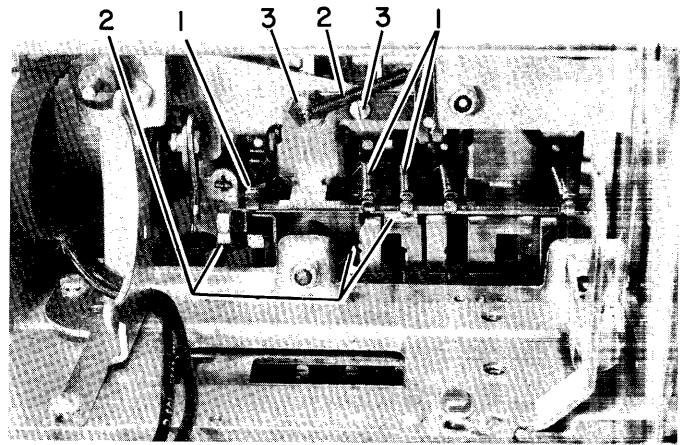

Figure 23. Rotate Selection Differential Removal
9. Remove the rotate-latch springs (#1, Figure 23).
10. Pull out the rotate links (#2, Figure 23).
11. Remove the check-latch spring (#3, Figure 23).
12. Remove the guide-bracket mounting stud and screw (#4, Figure 23).